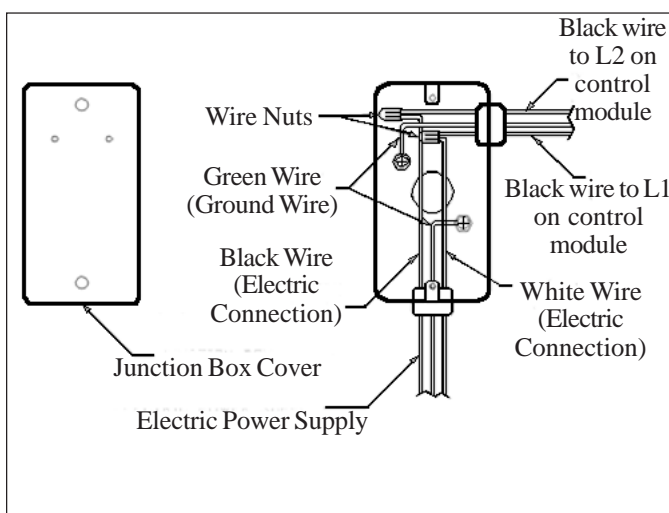

FIGURE 9
- a) Remove junction box cover. See Figure 9.
- e) Secure ground wire under screw holding junction box to heater back. See Figure 9.